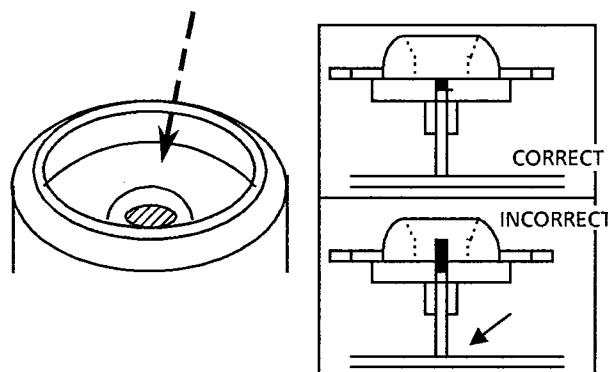

Fig 9
4. After inserting the turntable, bond the motor shaft and turntable together (at the section marked by an arrow in fig 9 on the left below).
5. Use "LOCKTITE" #460 bonding agent, and apply as little as possible. Take care not to allow any excess bonding agent to get onto the turntable. Be extremely careful not to allow bonding agent to adhere to the motor bearings (the section marked by an arrow in fig 9 on the right).